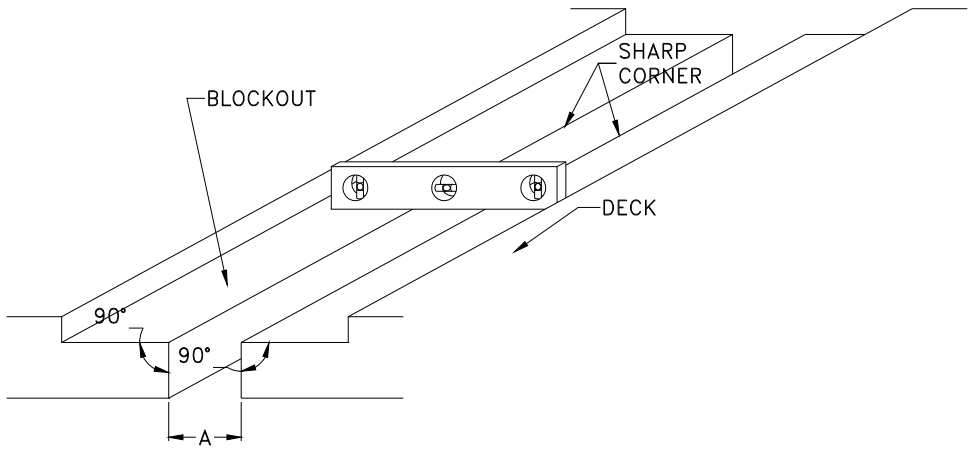

Figure 1
- B. Verify that the deck and the base of the blockout are formed level and at the same elevation across the joint (see Figure 1). Report any areas exceeding $\pm 1/4$ inch to Balco, Inc. for instructions prior to commencing with installation of seal.
- D. Verify that the joint interfaces are parallel to, and continuously equidistant from, each other and that they are straight and plumb. Verify that they are perpendicular to the base surfaces of the recess - making the corner a perfect “sharp” 90° angle (see Figure 1). It is critical that the leading corner on the base of the blockout, at the joint opening be a sound, square 90° corner. This ensures that the wing flange of the seal is fully supported.